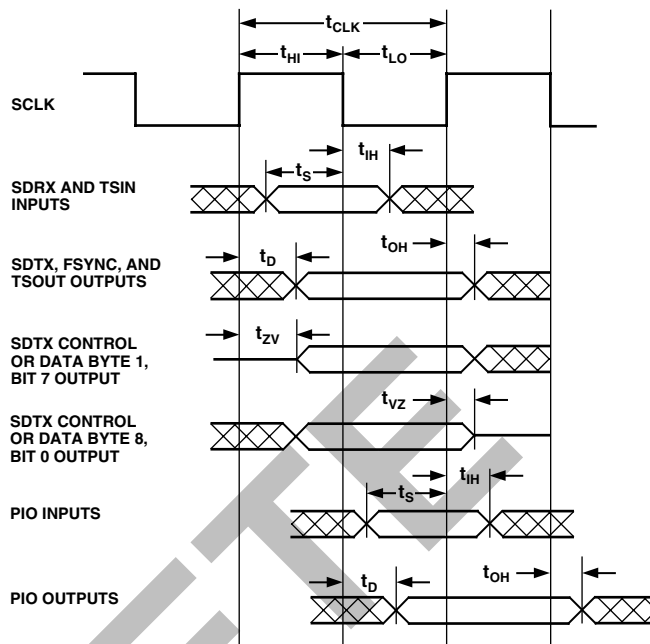

Figure 7. Timing Parameters
The PIO pins are read on the rising edge of SCLK five (5) SCLK periods before the first PIO bit is transmitted out over the serial interface. In Data Mode, the PIO pins are sampled as Bit 20 starts to be driven out. In Control Mode, the PIO pins are sampled as Bit 36 starts being driven out. Timing parameters are as shown in Figure 7; PIO pin input data is relative to the rising edge of SCLK. (Note that *only* the PIO pins are read on SCLK rising edges.)